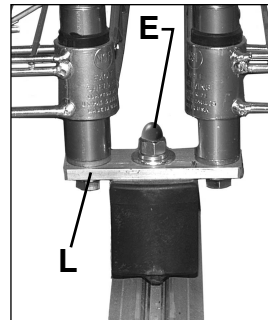
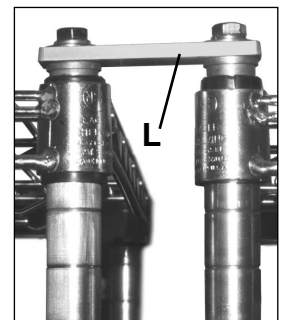

figure 3
figure 3a
Place center tie bar (L) on top of the skate. Align skates (A) top holes with the middle hole in the center tie bar. See "for End Posts" sequence above. Use two 3/8" flat washers (B) with lock washers (C) and a 3/8"-16x1 1/4" bolt (D1.25) and acorn nut (E) to attach center tie bar (L) as shown in figure 3. Use a flat head screw driver to start assembly. Repeat on opposite side. Attach wire shelving units to sides of center tie bar on skate (see "Double-Deep Unit" on back page). Use a 3/8" flat washer (B) with lock washer (C) and 3/8"-16x2 bolt (D2) to screw through center tie bar and into the bottom of the post as show in figure 3. Tighten bolts with a ratchet, small extension and 3/8" socket as shown in figure 2. Place center tie bar on top of posts and secure using a 3/8" flat washer (B) with lock washer (C) and 3/8"-16x2 bolt (D2) as shown in figure 3a.